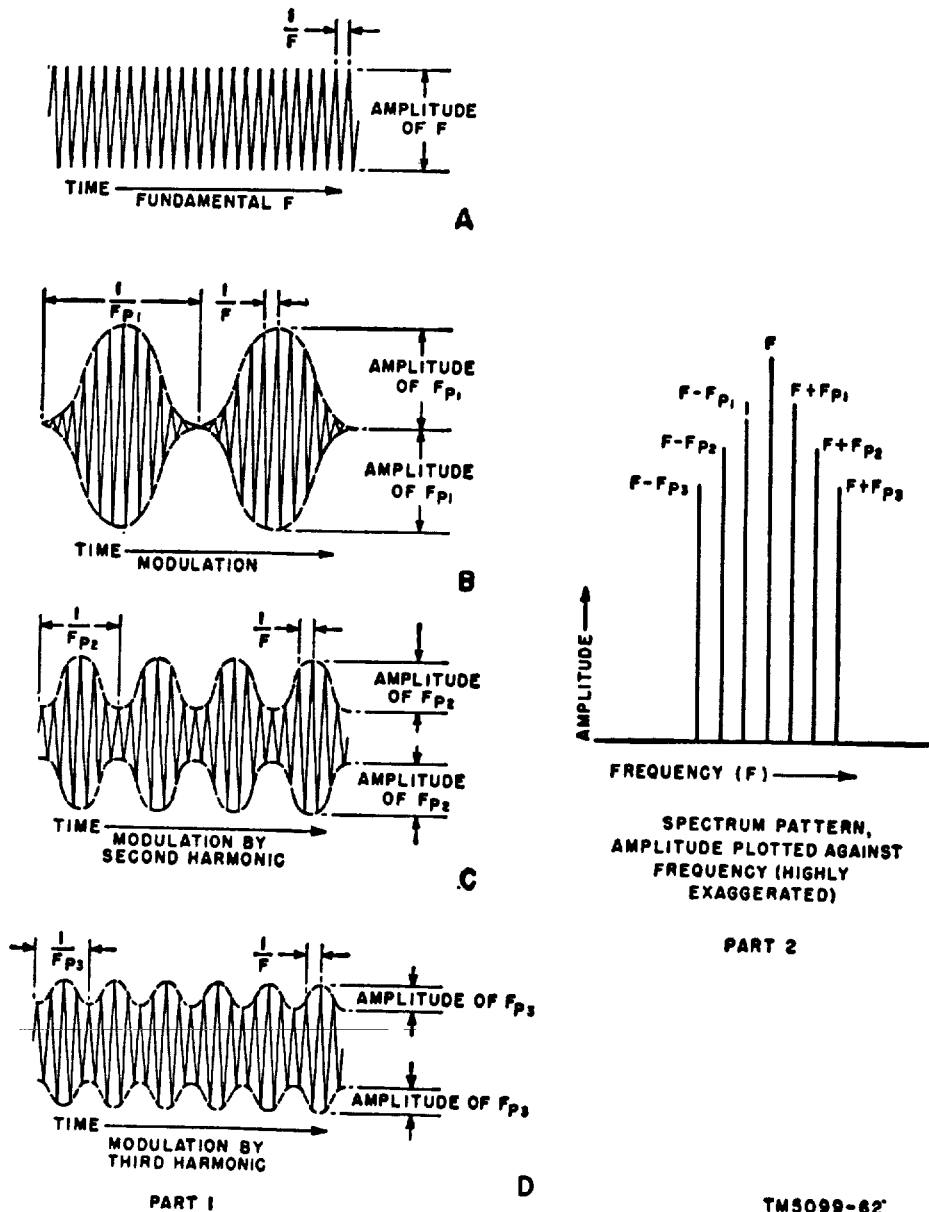

Figure 19. Comparison of a plot of amplitude versus time with a plot of amplitude against frequency.
these frequencies is a function of the modulation and is also called a spectrum. Normally, modulation is plotted on an amplitude and time basis, as shown in part 1 of figure 19. Part 2 of this figure shows the spectrum produced by a fundamental frequency when it is modulated by frequencies  $F_{p1}$ ,  $F_{p2}$  and  $F_{p3}$ .
c. Assume  $F$  to be the fundamental frequency of an oscillator. A wave form of this fundamental frequency, plotted as amplitude against time, is shown in A in part 1 of figure 19. The number of periods  $1/(F)$  occurring within one second determines the frequency of the oscillation. The amplitude is represented as proportional to the distance between the negative and positive peak of one cycle of oscillation.
d. In a spectrum pattern, this same frequency and amplitude would be represented as  $F$  in part 2 of figure 19. Points along the horizontal coordinate represent frequency, which increases from left to right, while distances along the vertical coordinate above the base line represent amplitude. Parts 1 and 2 of figure 19 represent two methods of diagramming the results of amplitude-modulating a carrier frequency.
e. Assume  $F_{p1}$  is a modulation frequency applied to the fundamental frequency,  $F$ . This is normally represented on an amplitude versus time basis as B in part 1 of figure 19. This same type of modulation is represented by two lines on the spectrum pattern. These lines are marked  $F+F_{p1}$  and  $F-F_{p1}$  in part 2 of the figure. The reason for this is that the modulated wave actually represents the results of *heterodyning*, two different frequencies. In other words, the modulation produces the same envelope that would be produced by heterodyning the side band and fundamental frequencies shown in figure 19. It follows that these frequencies are effectively
lower degree of amplitude than the fundamental of the modulating frequency. Call this frequency  $F_{p2}$ . Another set of waves is developed, as shown in parts 1 and 2 in figure 19. The amplitude of the two new frequencies created is less than that created by  $F_{p1}$ .
b. In figure 20, the pulse frequency and the basic frequency of the pulsed oscillator are shown on a time and amplitude graph. From this, it might appear that the output was simply a pure cw wave, of constant amplitude and frequency turned on for brief intervals of time. This cannot be true because of the presence of the modulation frequency  $F_p$  and the very large number of harmonics of the modulation frequency,  $F_{p1}$ ,  $F_{p2}$ , etc. The fundamental modulation frequency and its many harmonics may be considered to modulate the oscillator to produce a fundamental frequency with many sidebands. The net result is a spectrum such as was developed in figure 19, except that it is extended to a very large number of frequencies above and below the fundamental frequency. Such a spectrum is shown in part A of figure 21. The pulse frequency that produces this spectrum is shown in part B of figure 21. The output of the oscillator consists of an infinite number of lines representing different frequencies. However, due to the harmonic relationship between the modulation frequency and its harmonics, these lines will always be separated by a distance on the base line that is equal to the fundamental modulation frequency,  $F_p$ .